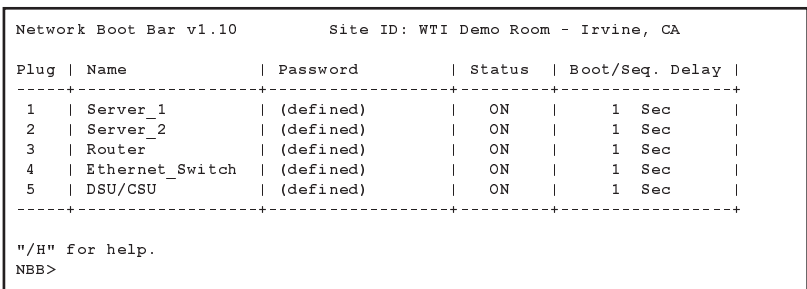

Figure 3.2: Plug Status Screen - Text Interface
- i. **Via Telnet:** Start your Telnet program, then Telnet to the NBB's default IP address (192.168.168.168). The NBB Plug Status Screen (Figure 3.2) should then be displayed.
- ii. **Via Local PC:** Start your communications program (e.g., Hyperterminal) and then press **[Enter]**. The NBB Plug Status Screen will be displayed as shown in Figure 3.2. Note that the default communications parameters for the Console Port are 9600 bps, No Parity, 8 data bits, One stop bit.